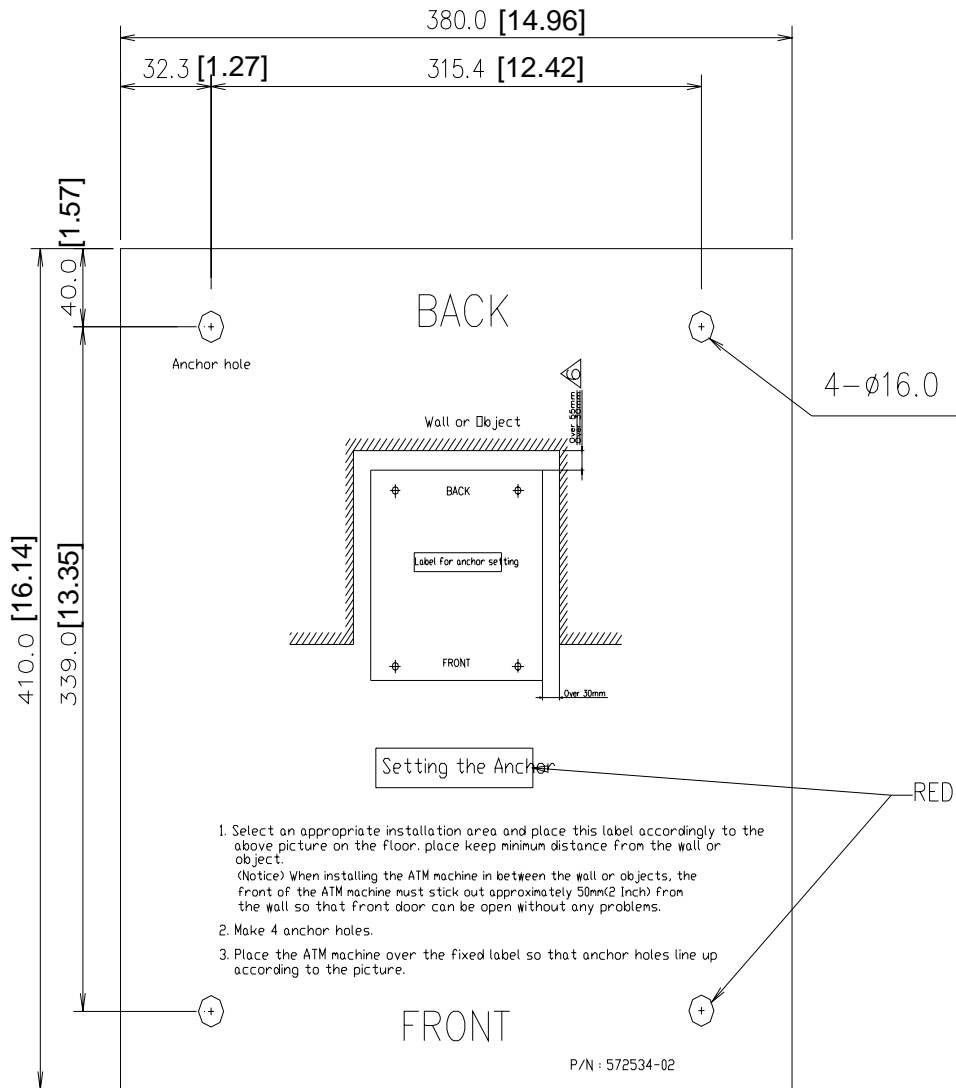

Fig. 6.1 Anchor diagram of this ATM
1. Place the “Anchor bolts locate sheet” at the place where the machine is to be installed. (refer to Fig. 6.1)
7. After the anchor nuts are in place according to the anchor holes on the bottom of this ATM, tighten the anchor bolts tightly. (refer to Fig.6.1)